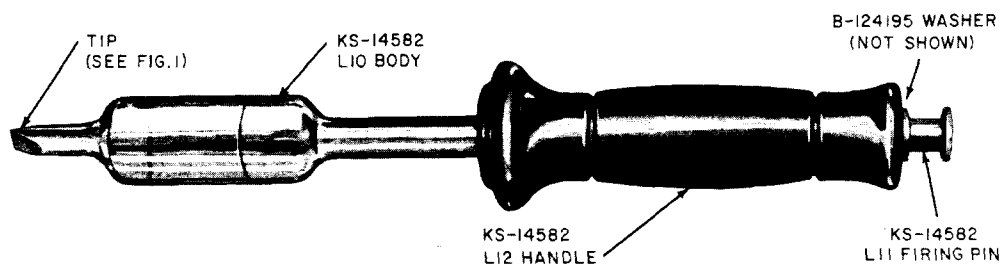

Fig. 2—KS-14582 L1 Soldering Copper (Manufacture Discontinued)
4.01 The KS-14582 L1 and L2 Soldering Coppers (Fig. 2 and 3) are conventional appearing soldering coppers which are heated by means of a chemically charged heat unit (KS-14768) placed in a chamber in the tip of the copper. The heat unit is actuated by a firing pin mechanism mounted in the handle of the copper. The handle is similar to that of the KS-8740 Electric Soldering Copper so the copper may be stored in the 504A Soldering Copper Holder.
part numbers for the purpose of ordering replacement parts. Note that the tips, firing pin, and B-124195 Washer are interchangeable for either the L1 or L2 Soldering Coppers. See Fig. 2.